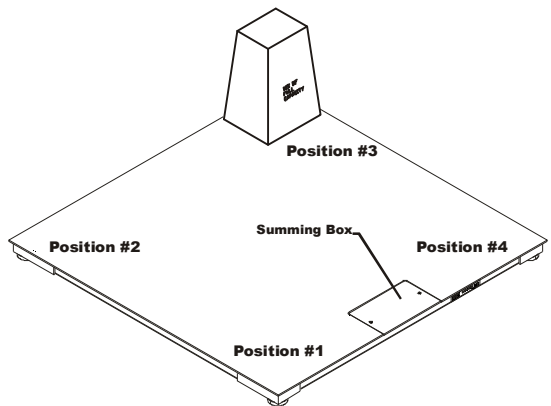

FIG. 10 SCALE VERIFICATION/POSITION #3
- Step 2. Place the test weight at Position #1 on the platform. (See Fig. 10)